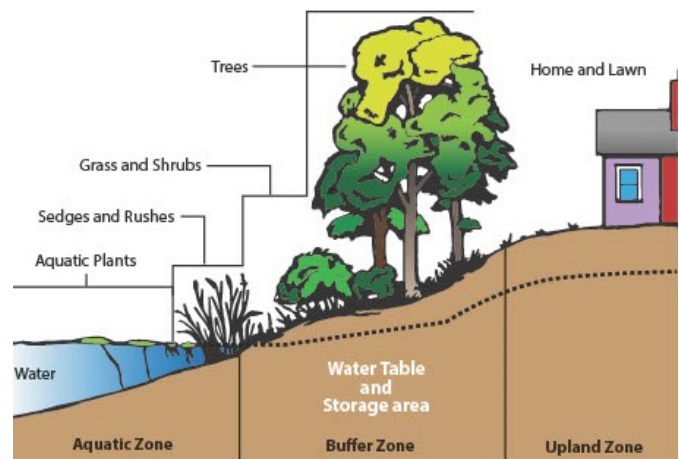

Figure 17-11: Buffers.
- Figure 17-11: Buffers. "Stormwater Management for Homeowners Fact Sheet 6: Buffers" Virginia Cooperative Extension. CC BY-NC-SA 4.0.